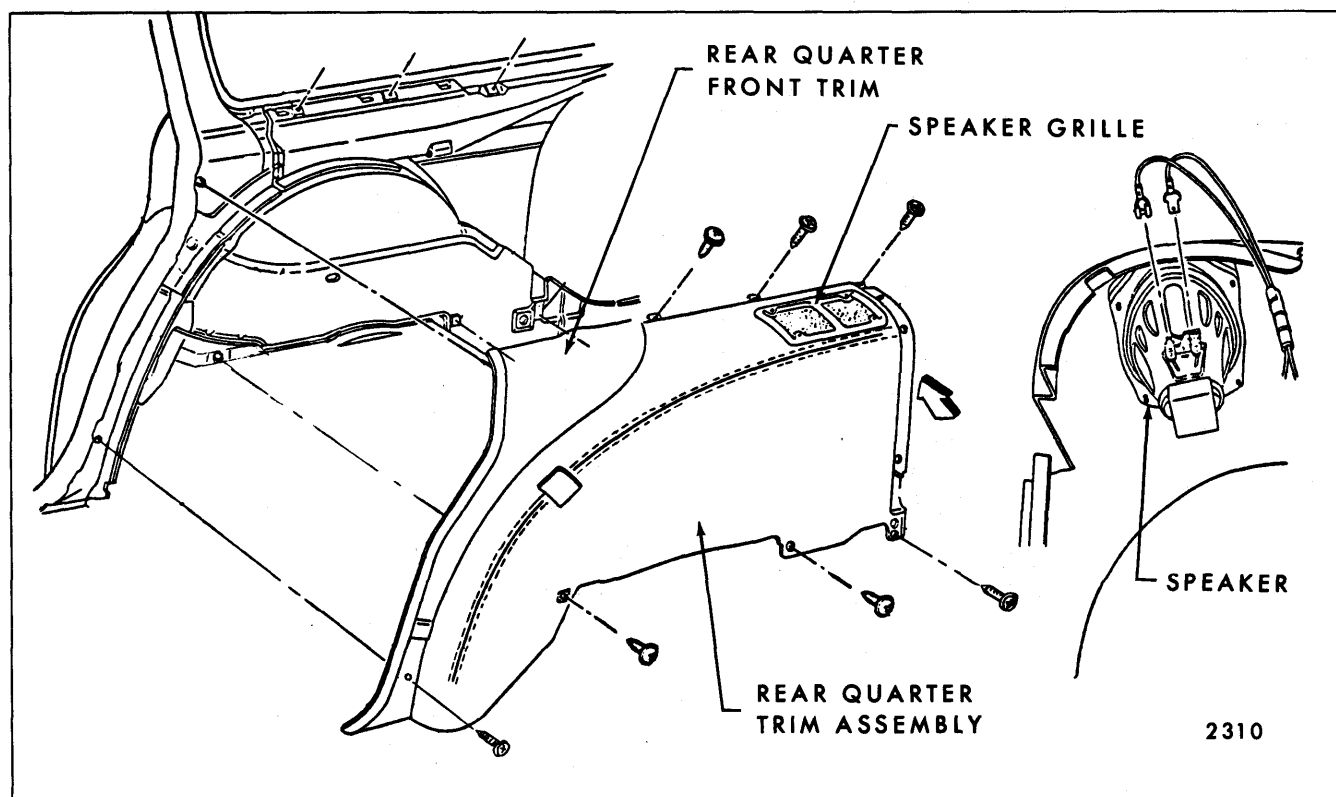

Fig. 14-30—Rear Quarter Trim Panel (Right Side) - "B" Station Wagons
4. Remove all screws securing trim panel to rear quarter inner panel (Fig. 14-30).
5. With a suitable flat-bladed tool, carefully disengage trim retainers from rear quarter inner panel along leading edge of rear body lock pillar (on front edge of rear quarter front trim assembly). (Fig. 14-30)